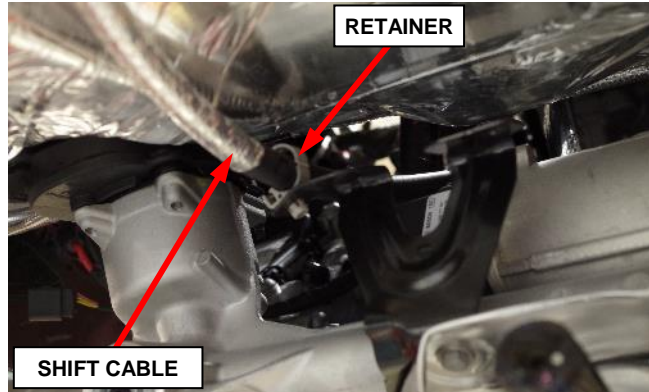

Figure 77 – Shift Cable Retainer
54. **AWD/4WD only:** Release the shift cable retainer from the steering gear heat shield bracket (Figure 77).
16. **AWD/4WD only:** Attach the shift cable retainer to the steering gear heat shield bracket (Figure 77).